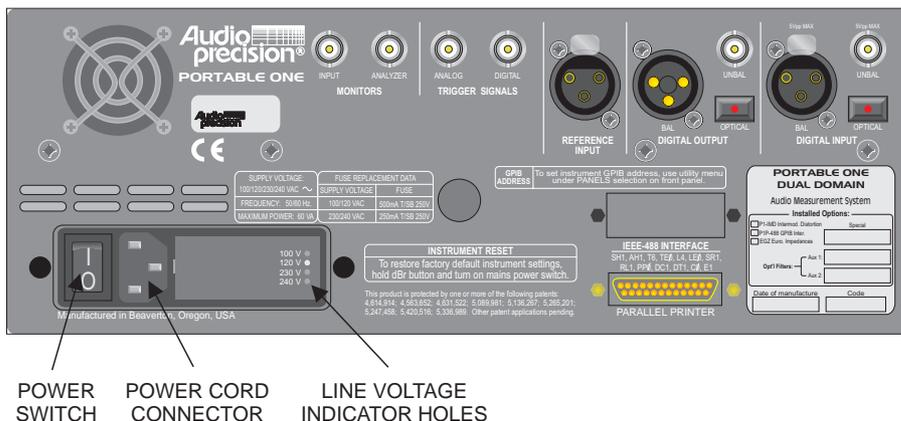

Figure 10-1 Rear Panel Showing AC Mains-Related Components
4. Replace fuses if necessary. Replace Cover, making sure that indicator tip is inserted in correct indicator hole for the selected line voltage (see Figure 10-1 for location of indicator holes).